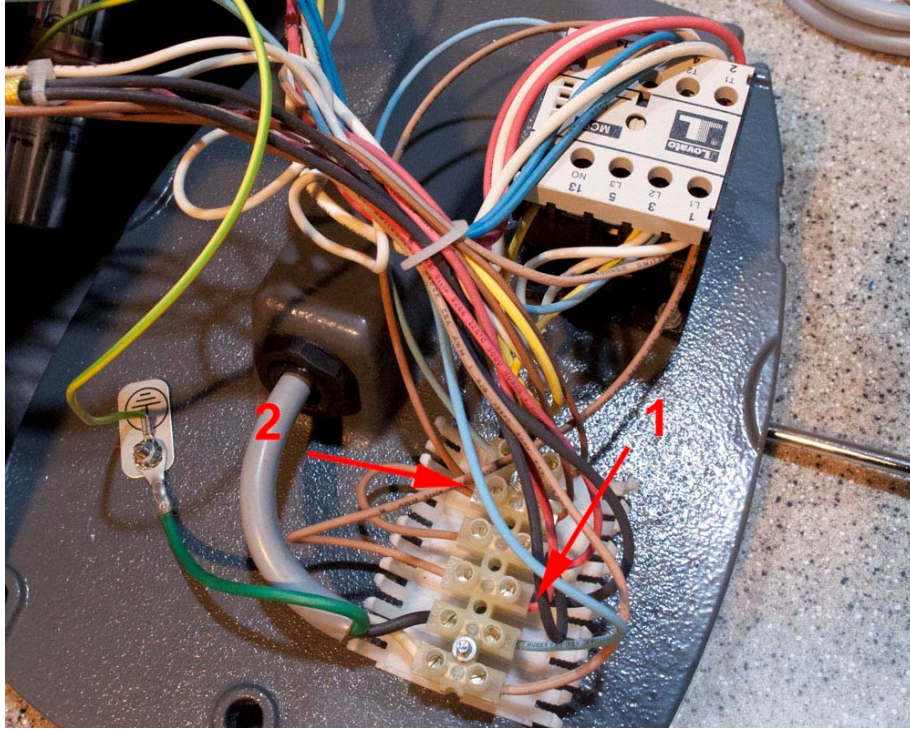

Figure 4. Inside view of the bottom plate. The top is the contactor. The bottom is the wiring terminal block.
Step 2. Identify the cable, contactor and terminals by comparing Fig 4 and Fig. 2. The arrow #1 and #2 are pointed to the same terminals in both figures. Loosen the cable tie first for easy access to the cables. Remove the red and black wires at Arrow #1 terminal by loosen the screw. Remove the two brown wires at Arrow #2 terminals by loosen the screw. Use electric tape to wrap electric tap on the tip of the wires that was just removed. The tape is very important for the brown wire that has the other end connected to the terminal 2 of the contactor (it is the "6)" in the "Timing the Automatic Version of Mazzer Automatic Grinder" guide.